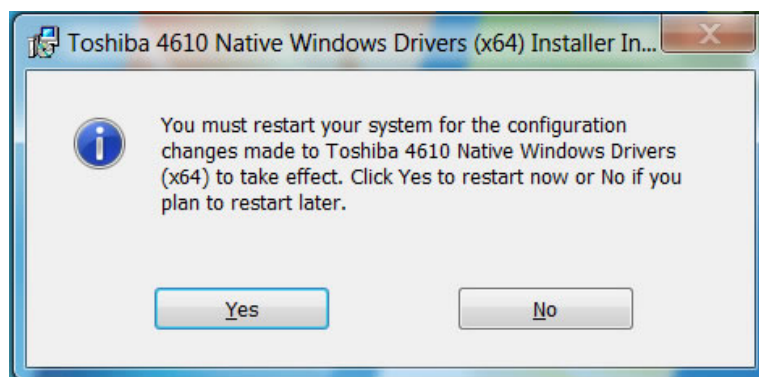

Figure 9. Restart window
5. If the Toshiba 4610 SureMark Printer Native Windows Driver Restart window (Figure 9) opens, click **Yes** to allow the InstallShield Wizard to restart your computer.